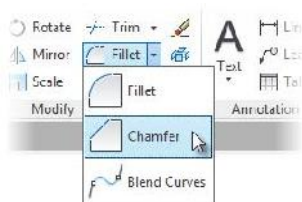

FIGURE 5.61: Starting the CHAMFER command from the Modify Ribbon panel
6. Start the CHAMFER command from the Home tab ➤ Modify panel. If the Chamfer tool isn't visible on the Ribbon, click the down arrow next to the Fillet tool, as shown in Figure 5.61.